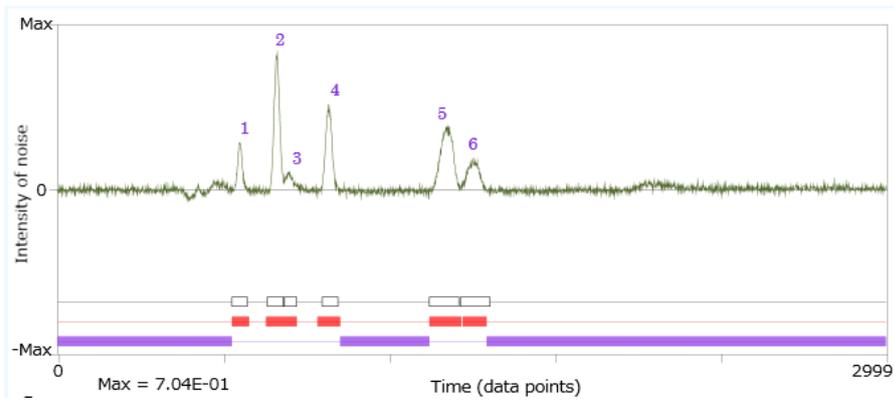

Figure 24 --- Chart (Participation of the second peak)
5. press the Do button to let the new peak participate in analyses; (see Fig. 24).